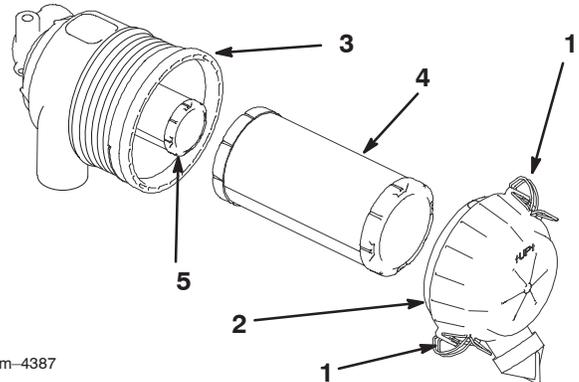

Figure 22
3. Release the latches on the air cleaner and pull the air cleaner cover off of the air cleaner body (Fig. 22).
5. Gently slide the primary filter out of the air cleaner body (Fig. 22). Avoid knocking the filter into the side of the body. Do not remove the safety filter, unless you intend to replace it as well.
2. If the safety filter is being replaced, carefully slide it into the filter body (Fig. 22).
3. Carefully slide the primary filter over the safety filter (Fig. 22). Ensure that it is fully seated by pushing on the outer rim of the filter while installing it.
4. Install the air cleaner cover with the side indicated as UP facing up and secure the latches (Fig. 22).